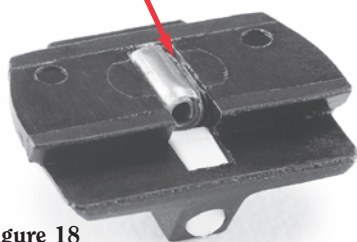

Figure 18
NOTE: There is a sight tension pin in the cavity under the front sight. (See Figure 18.) Be careful not to lose the tension pin when the sight is separated from the slide.
1. The sight tension pin should be oriented in the cavity on the bottom of the sight with the seam of the pin at the 9 or 3 o'clock position (see Figure 18). If the pin falls out of the cavity when the sight is held upright, it can be held in place with a dab of grease. Orient the front sight so the sighting surface is facing rearward.